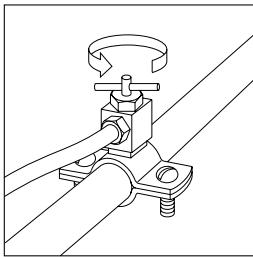
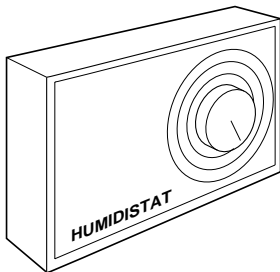

Fig. 3 — Saddle Valve
Fig. 4 — Humidistat
1. Open the saddle valve on the water supply line. (See Fig. 3.) Set humidistat to the desired relative humidity. (See Fig. 4 and Table 1.)
2. Turn off the humidifier's water supply. (See Fig. 3.)